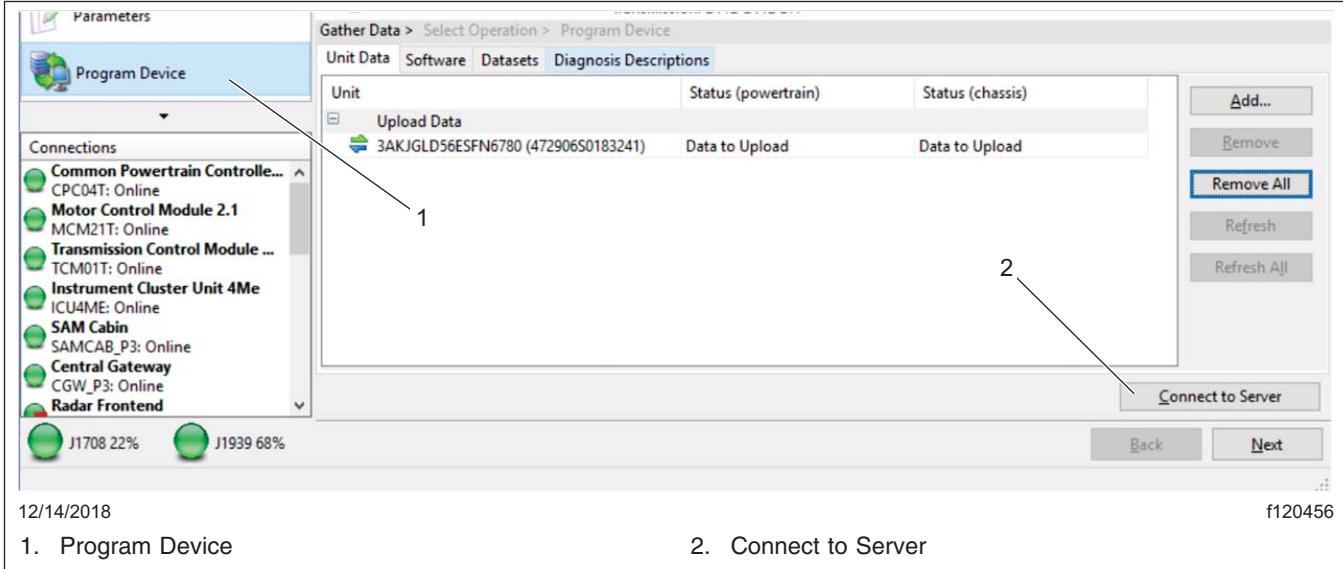

Fig. 5, Uploading Vehicle Parameters
- Select "Program Device." There should be data to upload. Click "Connect to Server" to upload vehicle parameters to the server. See Fig. 5.